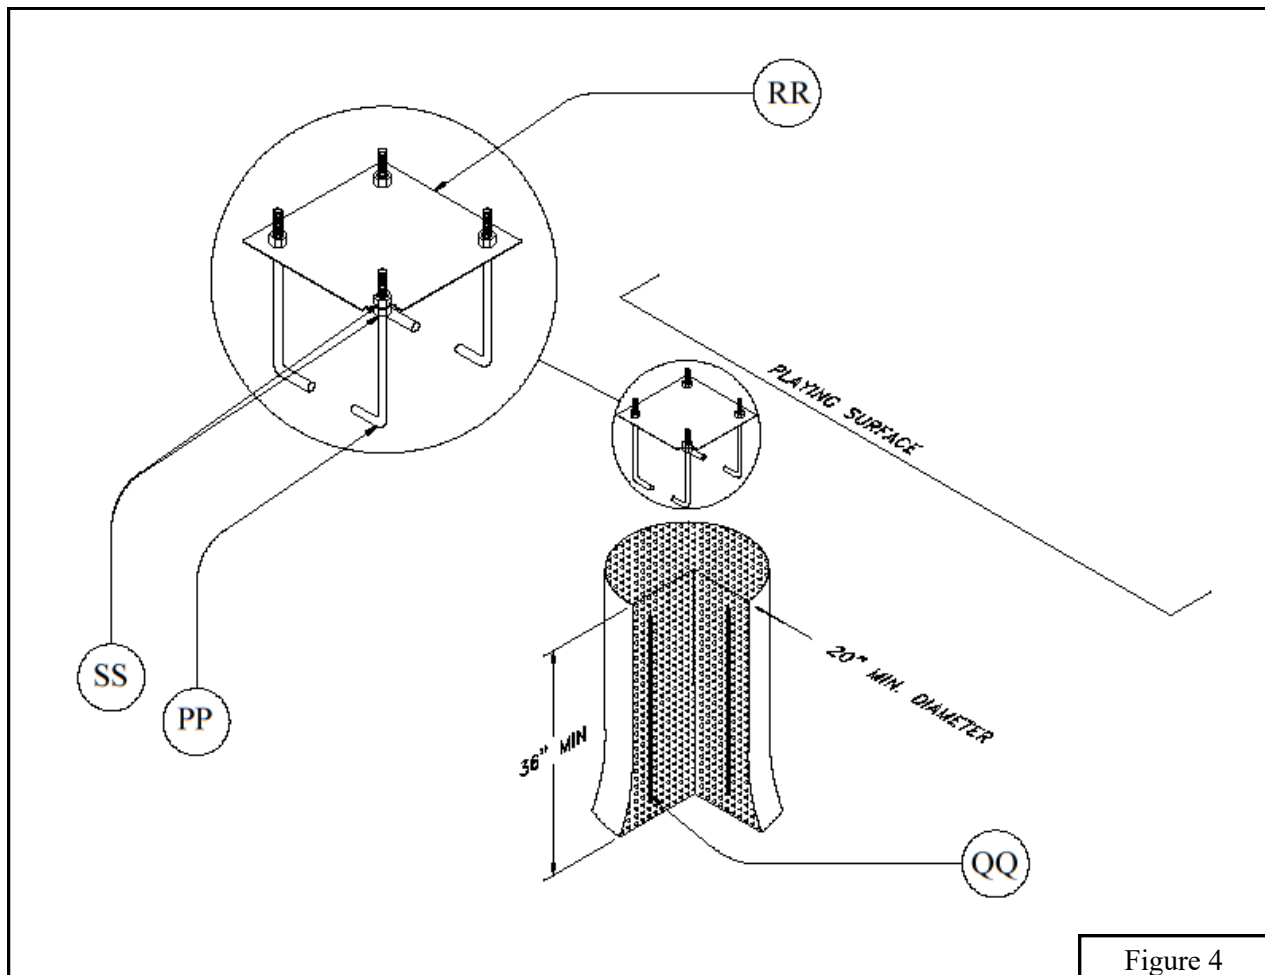

Figure 4
- 9b. Dig a hole a minimum of 20" in diameter and 36" deep. Bell out the bottom 12" of the hole to a diameter that is at least 4" larger than the diameter of the hole at the top. Digging the hole too big is better than digging it too small. See Figure 4.
- 10b. Prepare the "J" Bolt assembly by first threading a 5/8" *Hex Nut* (SS) onto each "J" *Bolt* (PP) so that approximately 2-1/2" of thread is protruding above the nut. Place the threaded end of each "J" *Bolt* (PP) through the four holes in the *Template* (RR). Thread a second 5/8" *Hex Nut* (SS) onto each "J" *Bolt* (PP) on the top side of the *Template* (RR). Tighten the nuts on both sides of the *Template* (RR), making sure that the same length of "J" *Bolt* (PP) (2" minimum) is protruding above the *Template* (RR) in all four corners and that the "J" *Bolt* (PP) "legs" are pointing toward the center of the *Template* (RR). See Figure 4.
- 12b. A 20" diameter by 36" deep hole, with additional soil removed from the bottom 1/3, will require approximately twenty 60 lb. bags of *Premix Concrete* (GG). Allow for more if the hole is deeper or wider. Make sure you have enough concrete on-site before pouring, because allowing a portion to dry before the hole is completely filled will affect the strength of the footing.
- ◆ Damaging threads on J-Bolts making it impossible to install 5/8" Hex Nuts (SS).
- 15b. Drop the *Rebar* (QQ) into the wet concrete to help support the concrete footing.
- 16b. Insert the "J" bolt assembly into the wet concrete. Be sure the *Template* (RR) is parallel to the desired position of the backboard and the edge of the playing surface. Use the tape measure to double check. Vibrate the assembly as you insert it so that concrete fills in around the "J" Bolts (PP). Be sure the *Template* (RR) is pressed firmly against the surface of the wet concrete. The top of the concrete footing should be flush with the playing surface. See Figure 4.
- 17b. Clean excess concrete from edge of hole and level the concrete from the edge of the *Template* (RR) to the edge of the hole. **Allow concrete to cure for 4 days.**